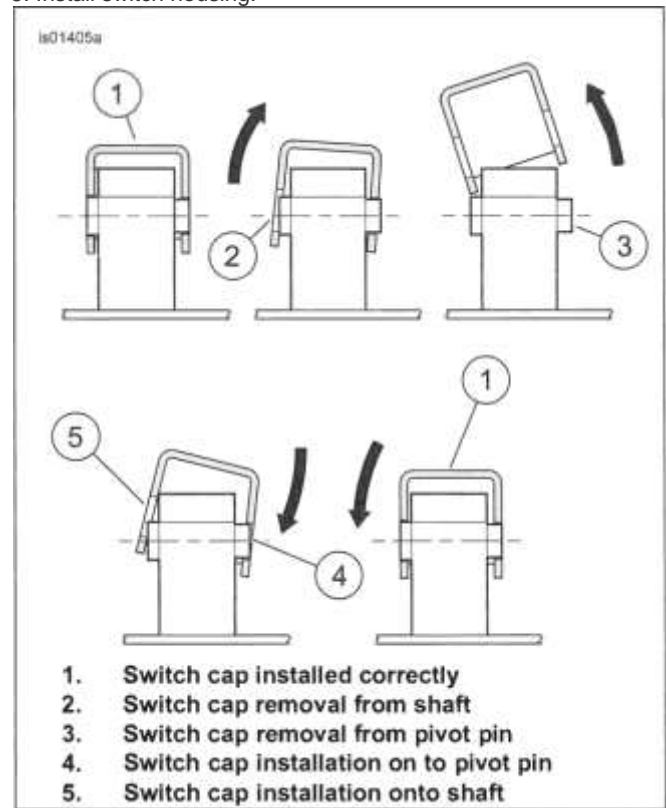

Figure 8-28. Switch Cap Removal and Replacement
- a. See Figure 8-28. Carefully pry switch cap up off pin (2) on side of switch.
- b. Pry switch cap up and away from pin (3) on opposite side.
- a. Place cap onto switch, angling hole over pin (4).
- b. Carefully press switch cap down onto opposite pin (5), rocking cap until snapping into place.